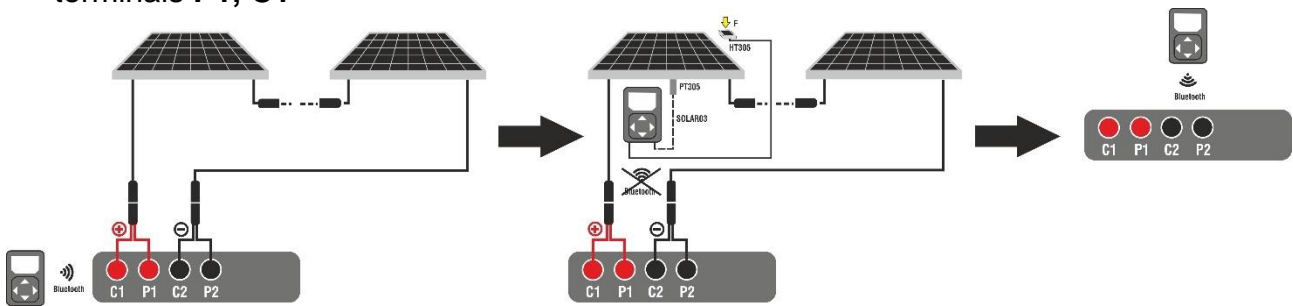
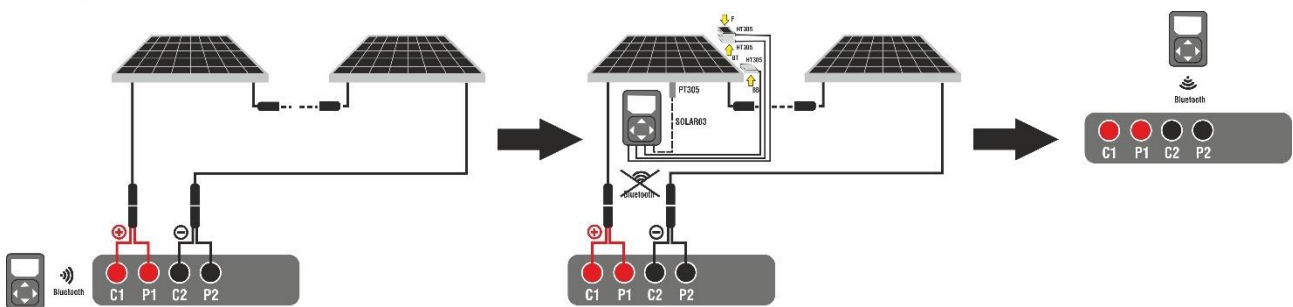

Fig. 69: Connection with SOLAR03 in synchronous recording on Monofacial modules
Fig. 70: Connection with SOLAR03 in synchronous recording on Bifacial modules
2. Connect the instrument to the module/string being tested as shown in Fig. 69 (Monofacial modules) or Fig. 70 (Bifacial modules). In detail, connect the negative pole output of the module/string to terminals **P2, C2** and the positive pole output of the module/string to terminals **P1, C1**
3. Move the SOLAR03 remote unit close to the instrument as shown in Fig. 69 or Fig. 70 – left side part
8. **Move the remote unit close to the modules** and connect the irradiance and temperature probes (if necessary) as shown in Fig. 69 or Fig. 70 – middle side part. In particular:
- **In case of Bifacial modules**→, position the **three HT305 reference cells** on the front surface of module (**F**), on the top back section(**BT=BackTop**) and on the bottom back section (**BB=BackBottom**) of the module. Connect the front reference cell (F) to input “**INP1**”, BT reference cell to input “**INP2**”, BB reference cell to input “**INP3**” and **possibly** the temperature probe **PT305** to input “**INP4**” of the remote unit. In accordance with the IEC/EN60904-1-2 standard, the instrument calculates the equivalent front-side Irradiance (**Irreq**) value, which corresponds to the Irradiance on the front surface only, which produces the same effects as the Irradiance measured on both sides, considering the **bifaciality factor** (φ) of the module according to the following relationship:
18. **At the end of the test session**, disconnect the SOLAR03 remote unit, place it close to the instrument (see Fig. 69 or Fig. 70 – right side part) and check that it automatically reconnects to the instrument